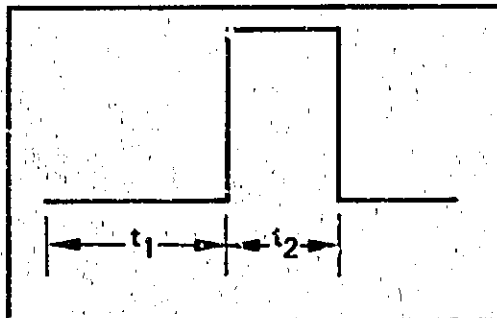

Figure 5-5. Oscilloscope Display of Waveform Symmetry
- g. Adjust scope for display as shown in Figure 5-5.